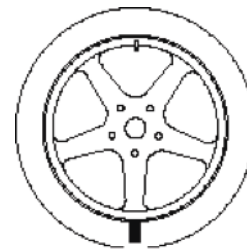

Fig. F5.6 - Marking the tyre at 180° respect to the valve
5. Remove the wheel from the shaft, remove the tyre bead, rotate it so that the mark is at 180° respect to the valve (see figure F5.6)